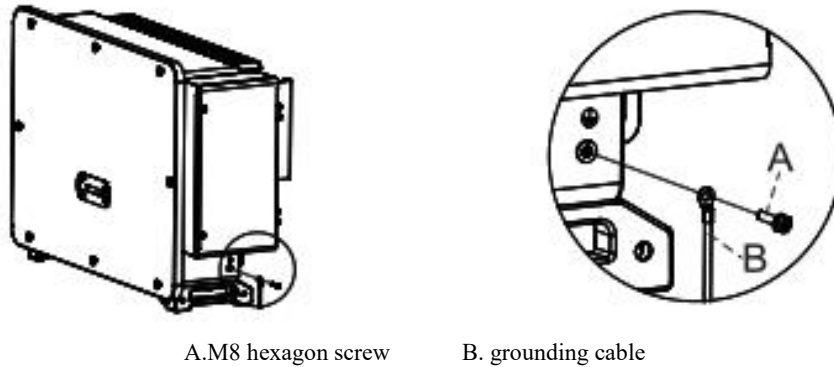

Figure 5-4 Inverter external grounding instruction diagram
Step 3: Remove the screw from the bottom side of inverter (Shown as figure 5-4), connect the grounding cable to the grounding point and tighten the grouping screw. Torque is 6-7N.m.